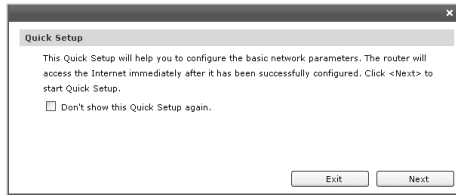

Figure 5-4 Quick Setup
3. After a successful login, the **Quick Setup** screen will pop up as the Figure 5-4 shows. If it does not prompt, you can click the **Quick Setup** on the left of the main menu. Then click **Next**.